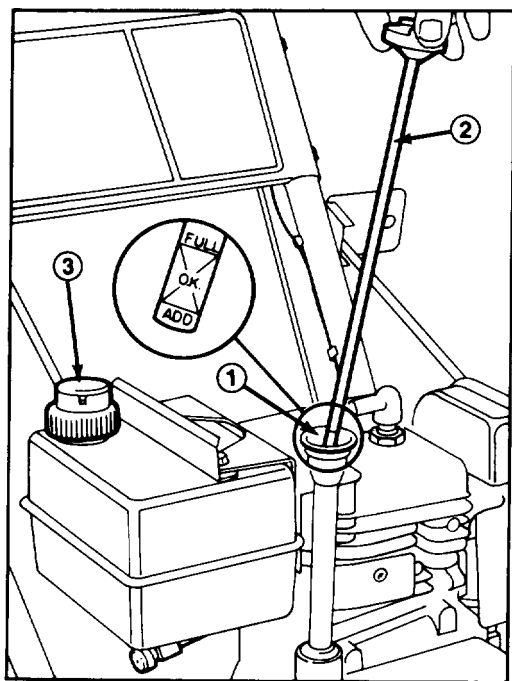

Figure 12
3. Remove dipstick from crankcase (Fig. 12).
4. Slowly, pour 21 ounces (0.621 l) of SAE 5W30 or SAE 10 oil into the filler hole (Fig. 12). The engine uses only high-quality detergent oil having the American Petroleum Institute —API— "service classification" SC, SD or SE.
1. Clean area around the fuel tank cap. Remove cap from fuel tank and fill tank to within 1/2 inch (13 mm) from the top with gasoline. Reinstall tank cap (Fig. 12).